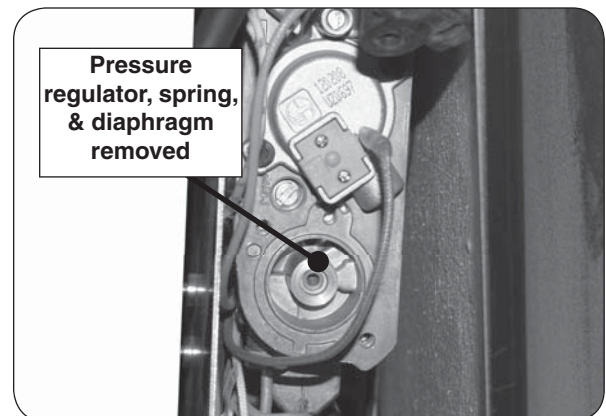

Fig. 2-3 Remove regulator, spring, & diaphragm
3. Completely remove the pressure regulator, followed by the spring and diaphragm assembly. The exposed valve should appear as shown in Fig. 2-3.